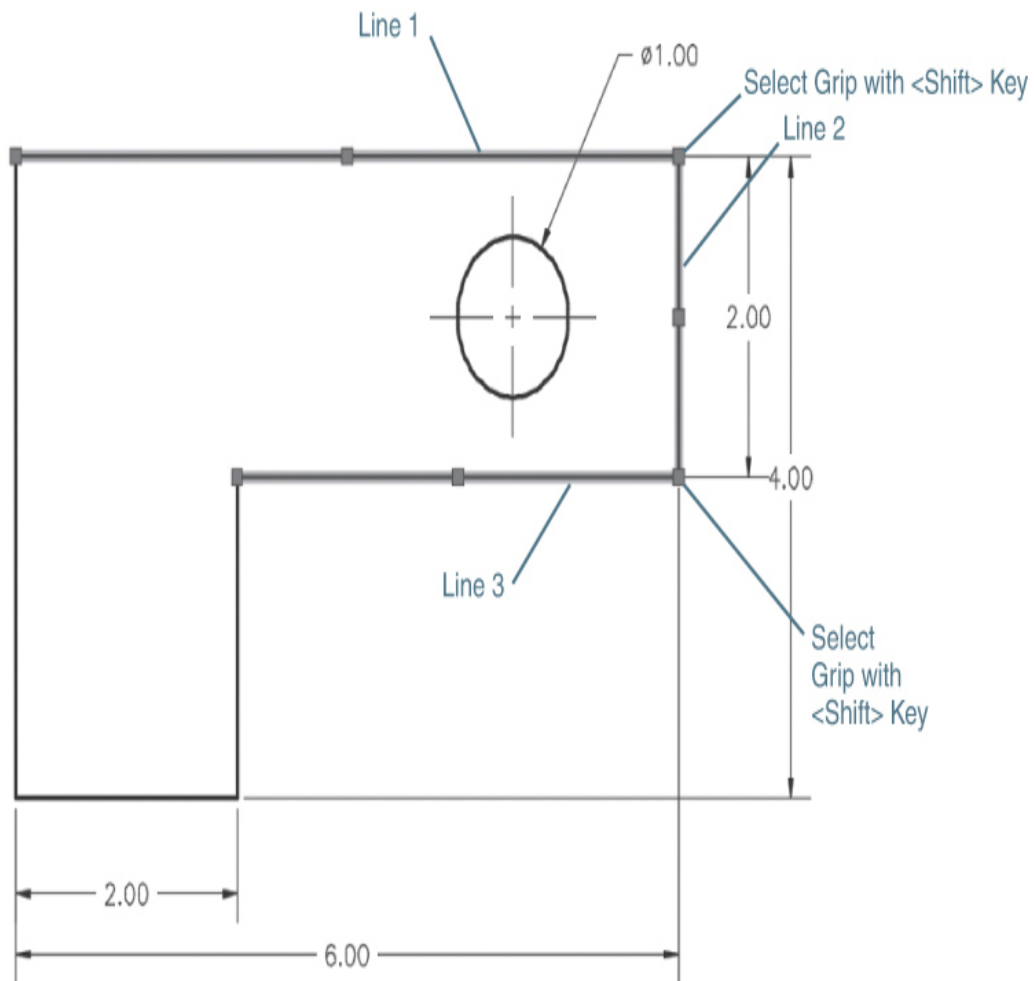

Figure 2-44
- 2 Select the three lines on the right side of the drawing (see Figure 2-44). Select the top line first.
- 3 Hold down the **<Shift>** key and select the two grips at the corners of the selected lines (see Figure 2-44). The two grips are highlighted, but grip editing has not started.